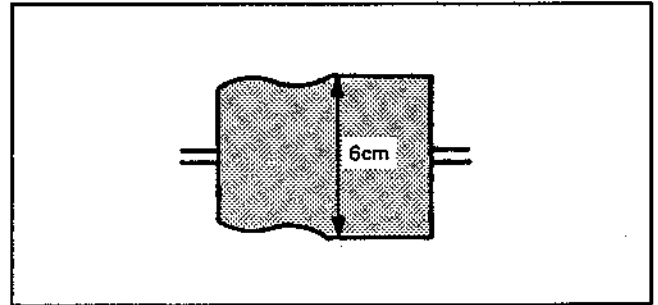

Fig. 2-3
- 5) Adjust oscilloscope V GAIN so that the RF output waveform center portion is 6cm on the oscilloscope. (Fig. 2-3)